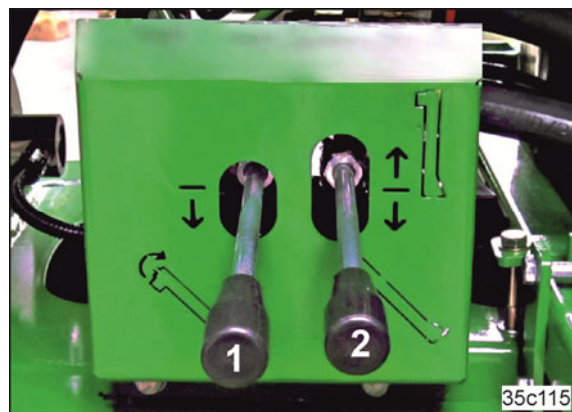

Fig. 232
4. Press the lever (Fig. 232/2) down until the filling auger is completely unfolded.
7. Press the lever (Fig. 232/1) down.
10. Press the lever (Fig. 232/2) up until the filling auger is completely folded.